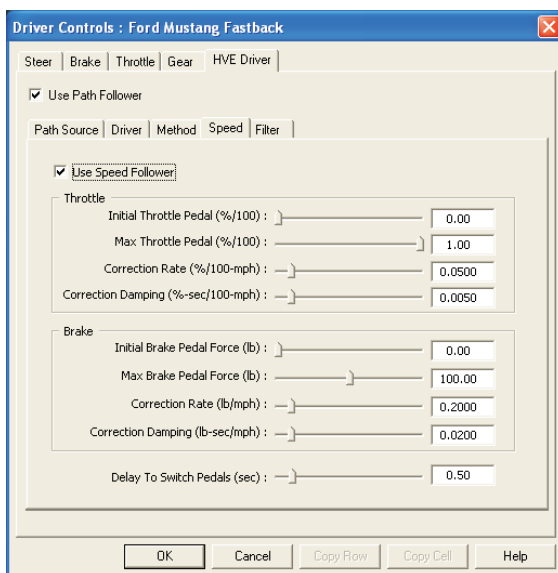

Figure 3 - Driver Controls, HVE Driver Model dialog, Speed page, allowing the user to activate the Speed Follower option.
- Select the *Speed* tab and click the *Use Speed Follower* checkbox to activate the Speed Follower option (this option applies the braking and throttle required to maintain the speed assigned in the Position/Velocity dialogs at each path location; see Figure 3).